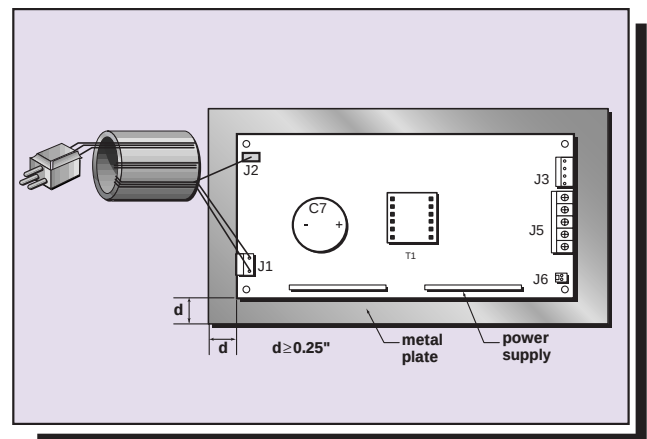

Figure 8 - Stand-alone Radiated EMI Measurement Illustration
The target of radiated EMI performance measured stand-alone is class A of EN55022 and FCC Part 15. To meet the target, the unit may require a line choke formed using a ferrite core with three (3) turns of all three input wires place between the AC inlet and the input connector. Recommended cores are Mag. Inc. J42212TC, Phillips 846T5003E2A, or equivalent. Figure 8 is the illustration of the setup.